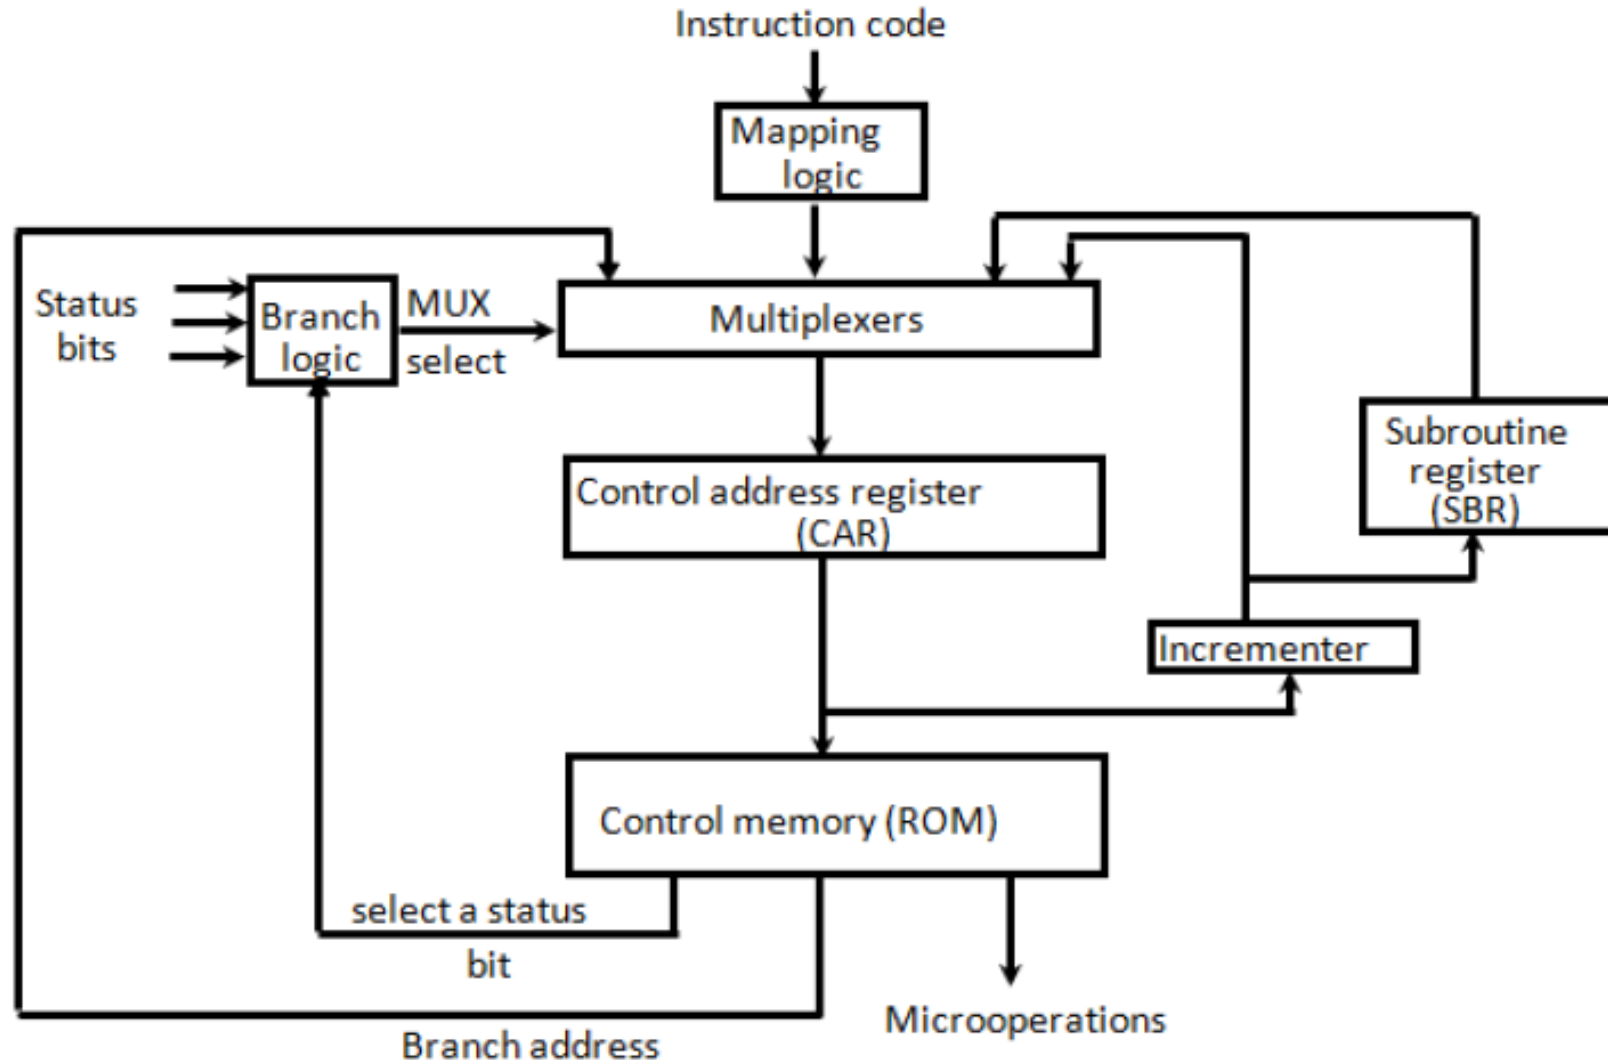

Figure 4.2: Selection of address for control memory
- Above figure 4.2 shows a block diagram of a control memory and the associated hardware needed for selecting the next microinstruction address.
- The **branch logic** of figure 4.2 provides decision-making capabilities in the control unit.